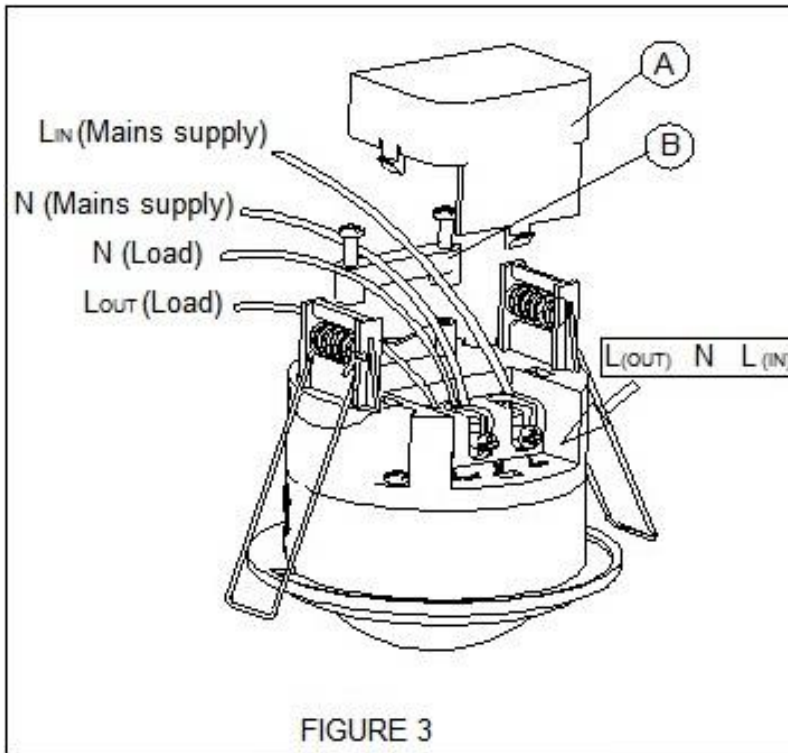

FIGURE 3
2. Remove the terminal cover (figure 3, part A) from the sensor.
4. Ensure that the wires are secure and no bare wires are exposed. Use the cord anchorage (figure 3, part B) to hold the wires in position and place the terminal cover (figure 3, part A) firmly back over the terminals.